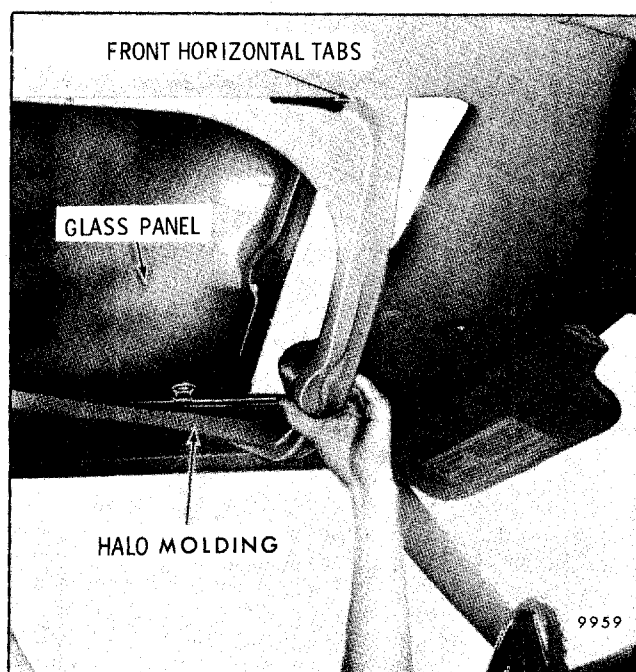

Fig. 8-106-Halo Molding Removal - E and K Styles
5. Pull forward center portion of the halo molding down so that the horizontal tabs at the front of the molding are removed from the track (Fig. 8-106).